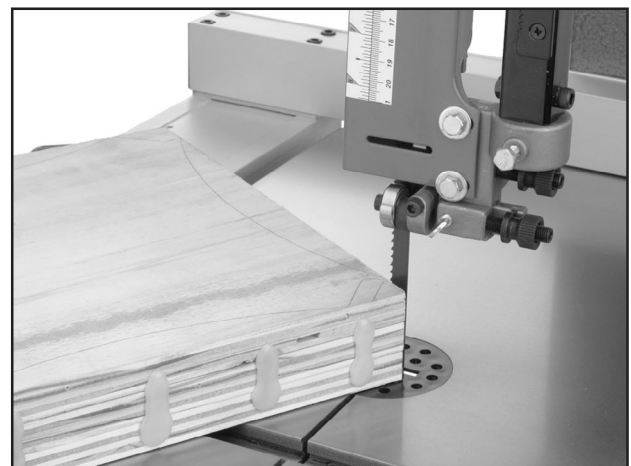

Figure 53. Typical stacked cut.
5. Cut the stack of pieces as though you were cutting a single piece. Follow your layout line with the blade kerf on the waste side of your line, as shown in **Figure 53**.